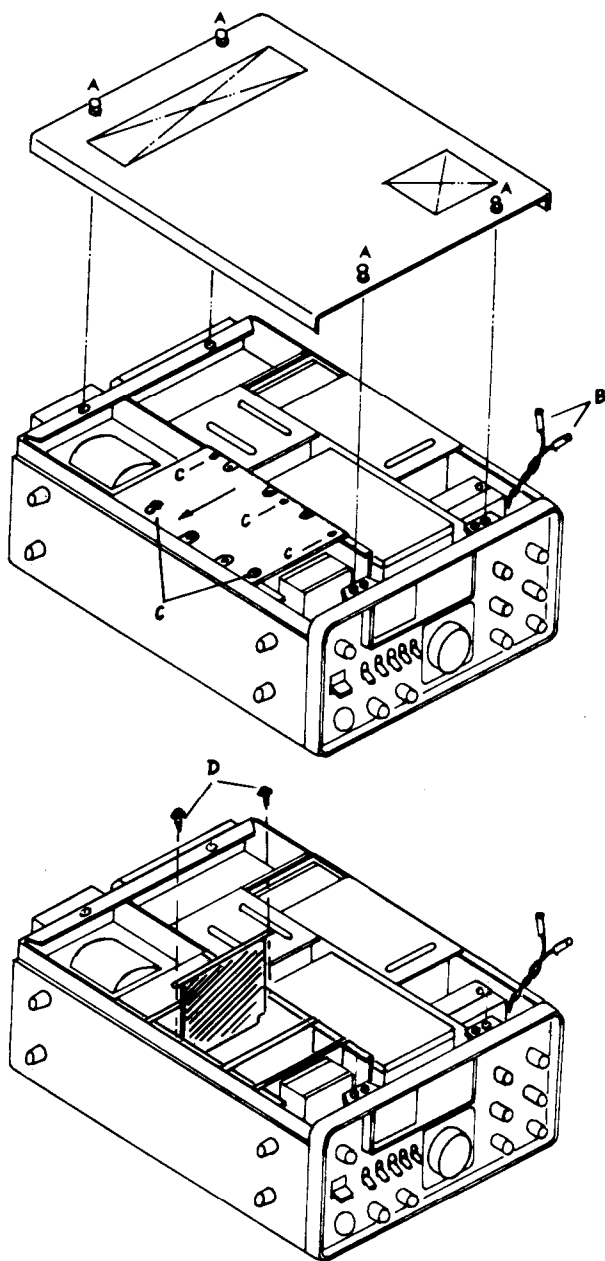

Fig. 1
- 1) Remove the top cover by releasing the fasteners marked "A" in Figure 1. Slowly lift the cover, and remove the speaker lead, marked "B", from the speaker lugs.
- 2) Remove the plate marked "C" as shown in Figure 1.
- 3) Remove the screws marked "D" in Figure 1, and carefully remove the Filter Unit from its edge connector.